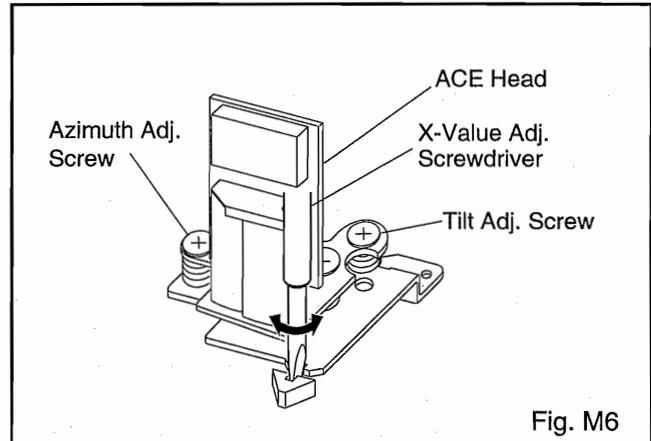

Fig. M6
4. If creasing or snaking is apparent, adjust the Tilt Adj. Screw of the ACE Head. (Fig. M6)
4. Use the X-Value Adj. Screwdriver so that the PB FM signal at J232 (V-ENV) is maximum. (Fig. M6)
3. Adjust Azimuth Adj. Screw so that the output level on the AC Voltmeter or the waveform on the oscilloscope is at maximum. (Fig. M6)